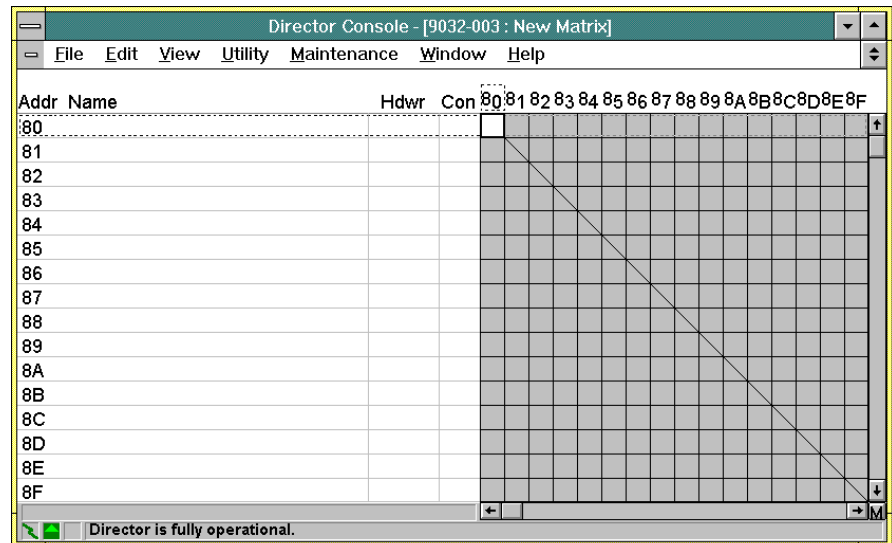

Figure 137. Matrix Window (No Attributes Set)
3. Select the Director for which the new configuration matrix is to be created (**9032-003** in this example) and click the *OK* button. The *New Matrix* window appears (Figure 137).